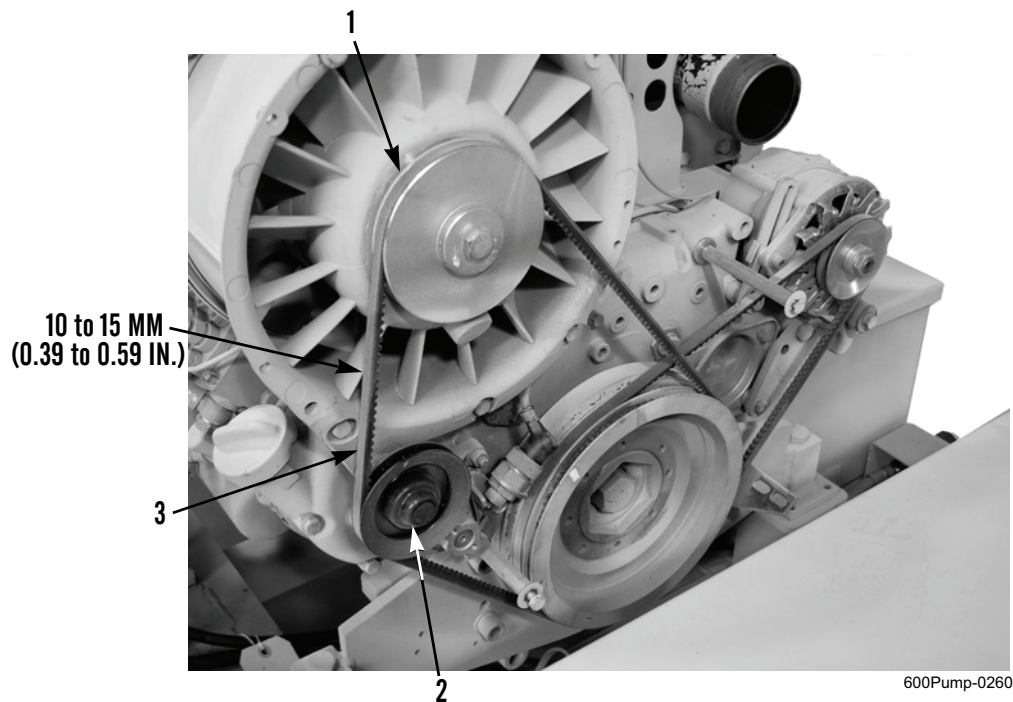

Figure 1. Cooling Fan V-Belt.
1. Visually inspect cooling fan V-belt (Figure 1, Item 3) for cuts, frays, breaks, or other damage.
2. Check belt deflection midway between cooling fan pulley (Figure 1, Item 1) and tensioner pulley assembly (Figure 1, Item 2) with gauge unit. Deflection should be 10 to 15 mm (0.39 to 0.59 in).
3. If tension is not correct, either cooling fan V-belt (Figure 1, Item 3) is worn or tensioner pulley assembly (Figure 1, Item 2) is damaged. Replace cooling fan V-belt (WP 0029) or tensioner pulley assembly (WP 0092).